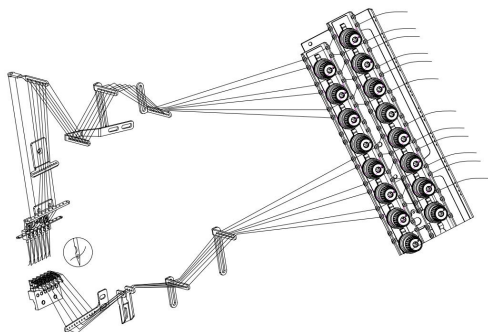

图9 (Fig.9)
- 1.按照图示穿线，错误穿线将引起断线、跳针或缝纫线迹不良等现象。(图 9)
- 1.Refer to the sewing type you need for correct threading .Any incorrect threading may cause thread brake 、uneven stitches or skip stitches. (Fig.9)
- 1.Thread temsion ,should be adjusted in regarding to kinds of threads fabrics,thickness of fabrics ,and stitch length efc. (Fig.9)